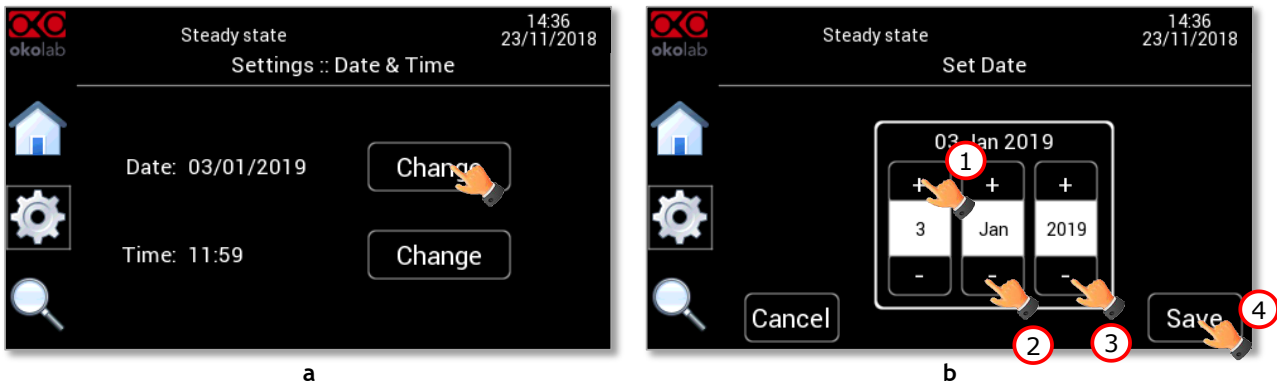

Figure 76. Set Date.
2. Figure 76 a) to enter the *Set Date* page.
3. Change the date using *+* and *-* (1,2,3 in Figure 76 b). Click on *Save* to confirm (4 in Figure 76 b) or *Cancel* to undo